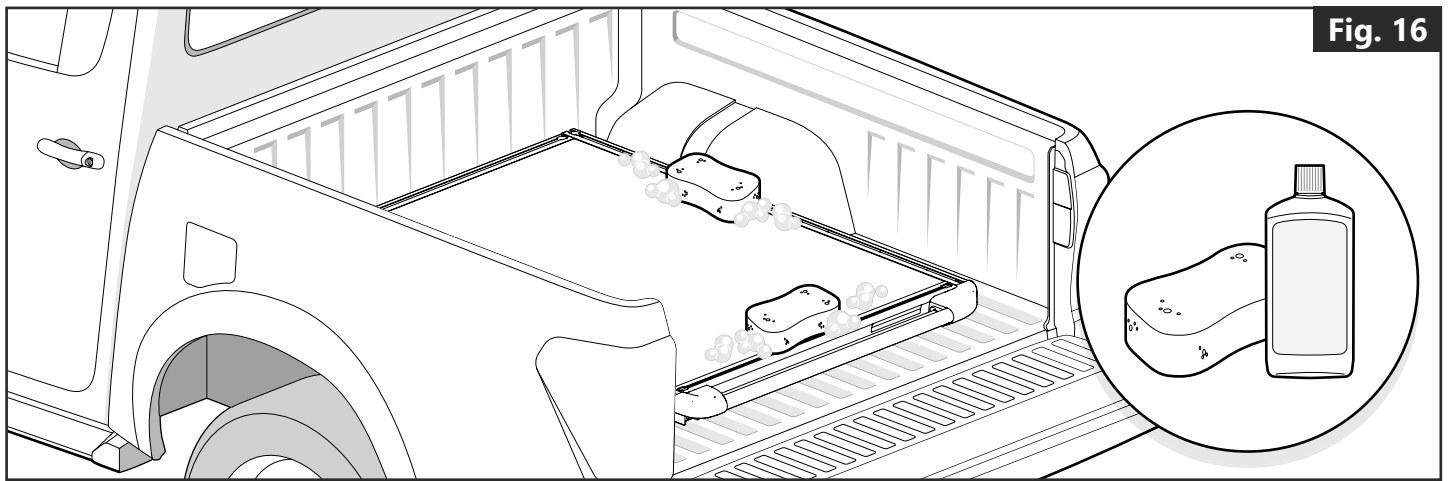

Fig. 16
- The Mountain Top Slide™ should be cleaned on a regular basis using water with normal car shampoo. **(Fig. 16)**
- Clean the base frame rails regularly. For optimal cleaning, remove the deck from the base frame. Refer to section (4) for proper detachment of the deck.